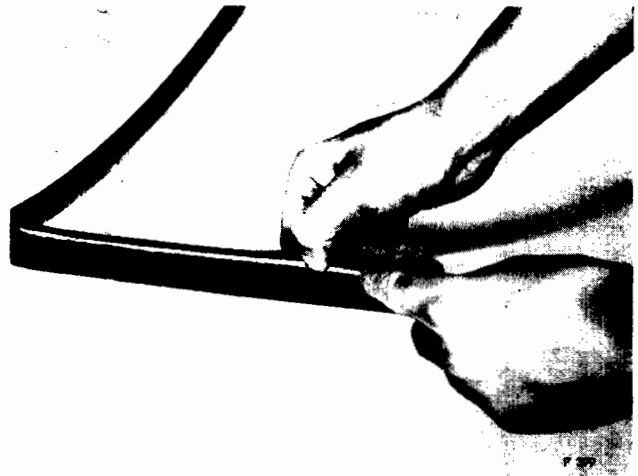

Fig. 81. Inserting cord into weatherstrip channel
1. Insert a length of strong cord into the inner channel of the rubber, positioning the loose ends at the lower centre of the glass (Fig. 81).